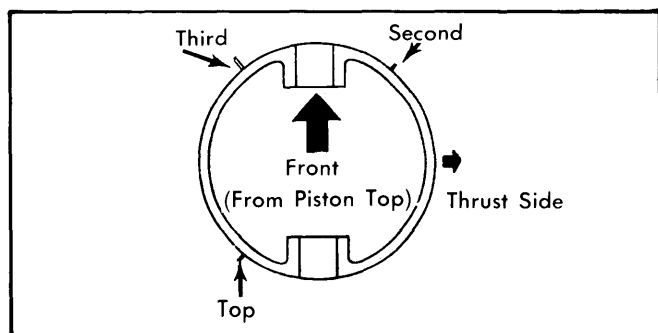

Fig. 6 Installed Position of Piston Rings
**Installation** — Install piston rings on piston with ring gaps spaced and positioned as shown in Fig. 6. Code letter and number on ring outside surface should face up. Lubricate piston, crankshaft and cylinder. Using suitable piston ring compressor, insert pistons in cylinders, making sure that notch on piston top is toward front of engine. Install connecting rod bearing caps and tighten bolts.